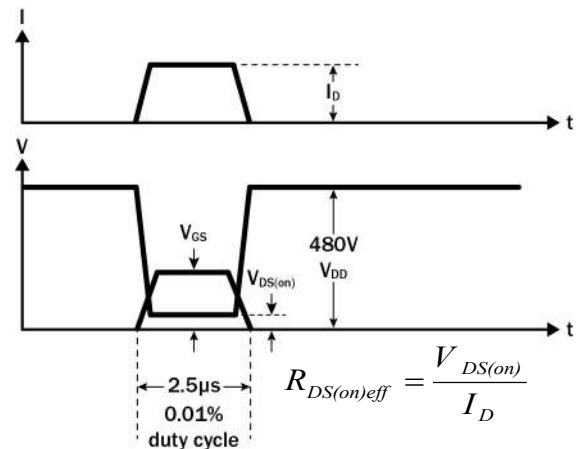

Figure 19. Dynamic $R_{DS(on)eff}$ Waveform
- Dynamic R_{DS(on)} value; see Figures 19 and 20 for conditions